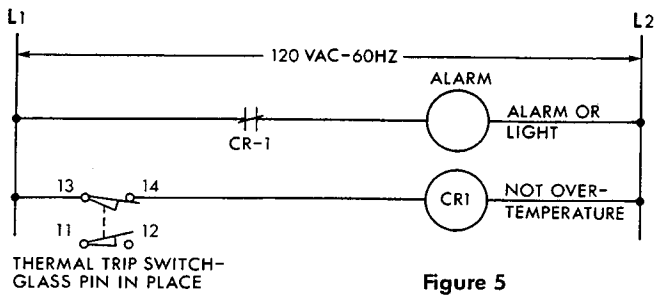

Figure 5
4. A qualified electrician must wire thermal trip switch in conformance with local or applicable codes. See recommended fail-safe wiring diagrams, Figures 5 and 6. Each application must be reviewed for correct circuit design by a qualified electrician.